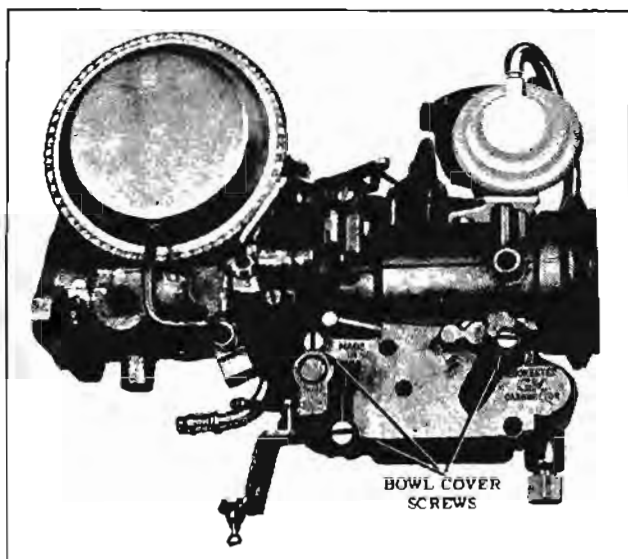

Fig. 9-115 Float Bowl Cover Screws
2. Remove float bowl cover attaching screws and remove cover. (Fig. 9-115)